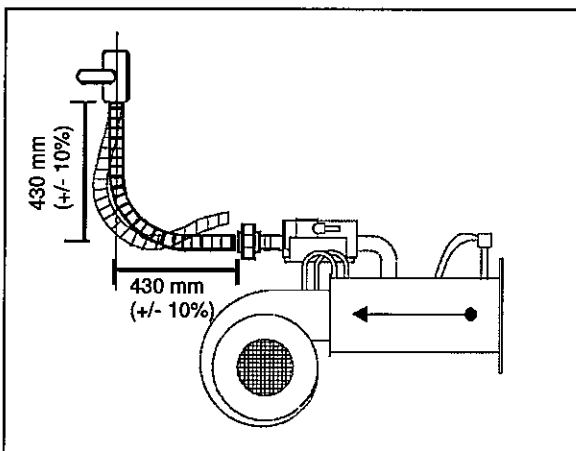

Fig. 14: Stand connection 90° bend
- ⇒ Mount only a flexible hose with 90° bend or with 2 x 90° elbow with 180° bend according to Fig. 14, 15 and 16.